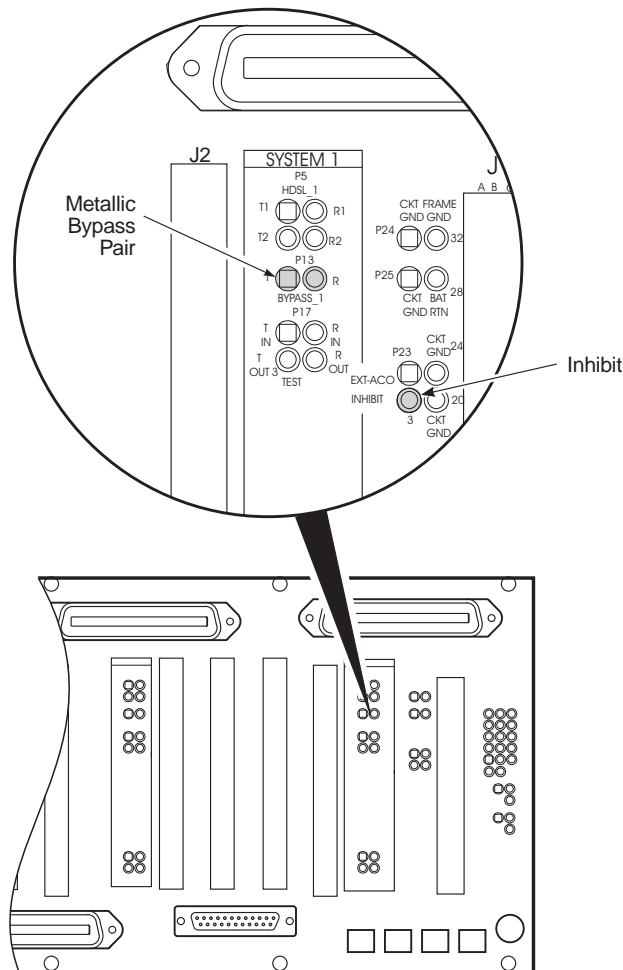

Figure 8. Connecting the Metallic Bypass Pair
If subscriber drop testing is required, connect the metallic bypass pairs from the RT enclosure to the COT shelf backplane wire-wrap pins as shown in Figure 8 (refer to Table 12 for bypass pair terminations and functions). Bypass pairs can be connected directly to each PG-Flex system, or shared between other PG-Flex and/or Digital Loop Carrier (DLC) systems by cascading the pairs between other systems.
- 1 For System 1, connect the metallic bypass pair from the Main Distribution Frame (MDF) to wire-wrap posts BYPASS_1_T (Tip) and BYPASS_1_R (Ring) on the COT shelf (see Figure 8).
- 1 For System *n*, connect the metallic bypass pair from the main distribution frame (MDF) to wire-wrap posts BYPASS_*n*_T (Tip) and BYPASS_*n*_R (Ring) on the backplane of the first system in the COT shelf sharing the bypass pair (see Figure 8).